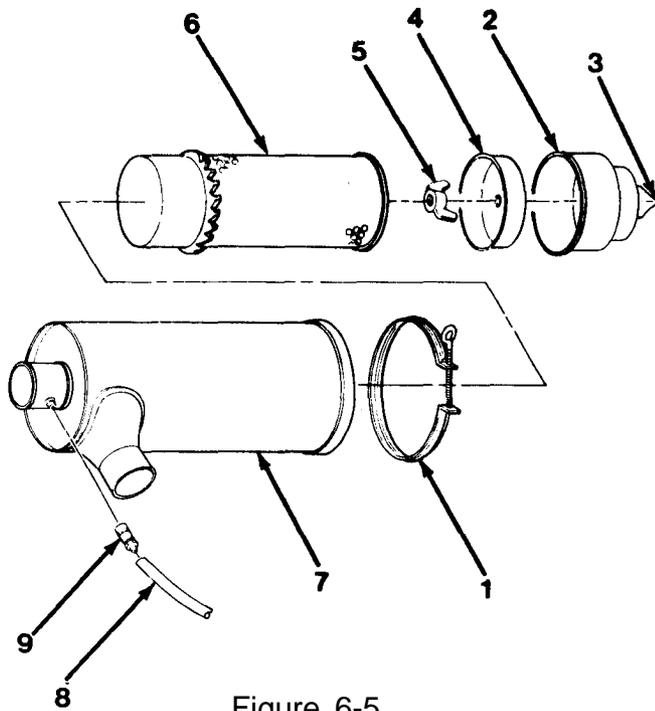

Figure 6-5
1. Remove clamp (1) and cup (2, Figure 6-5).
2. Remove valve (3) and baffle (4) from cup (2).
3. Remove nut (5) and element (6) from body (7).
4. Remove hose (8) and coupling (9) from body (7).
1. Install coupling (9) and hose (8) to body (7, Figure 6-5).
2. Install element (6) and nut (5) to body (7).
3. Install baffle (4) and valve (3) to cup (2).
4. Install cup (2) and clamp (1).